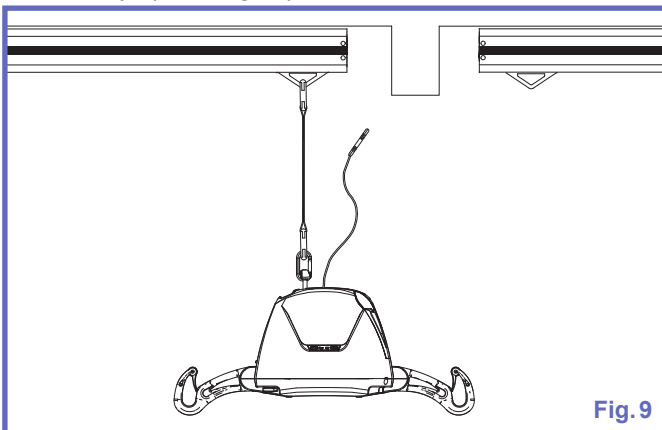

Fig. 9
- 4) Do not stop until the lift has completely transferred beneath the trolley on the other rail. Make sure that the extension strap is completely tightened before unhooking the lift from the first trolley. (see Fig. 9).